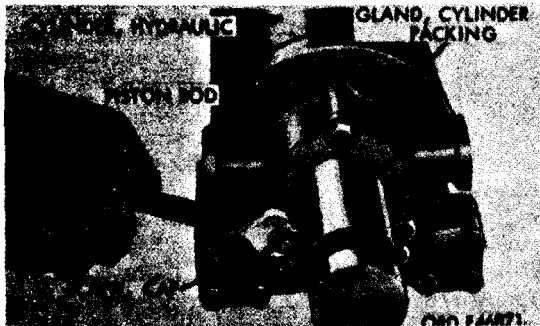

Figure 102. Removing cap screws from cylinder packing gland
a. Disassembly. Because of the welded construction of the hydraulic cylinder assembly, disassembly is limited to the procedure given in steps (1) through (6) below.
- (1) **Remove three cap screws and lock-washers attaching cylinder packing gland to hydraulic cylinder** (fig. 102).
- (e) Install end cover bushing, cylinder packing gland ring, cylinder packing, and cylinder packing gland over end of position rod (fig. 103). Install three cap screws, and lockwashers securing cylinder packing gland to hydraulic cylinder (fig. 102).
(2) Install hydraulic cylinders on subframe.